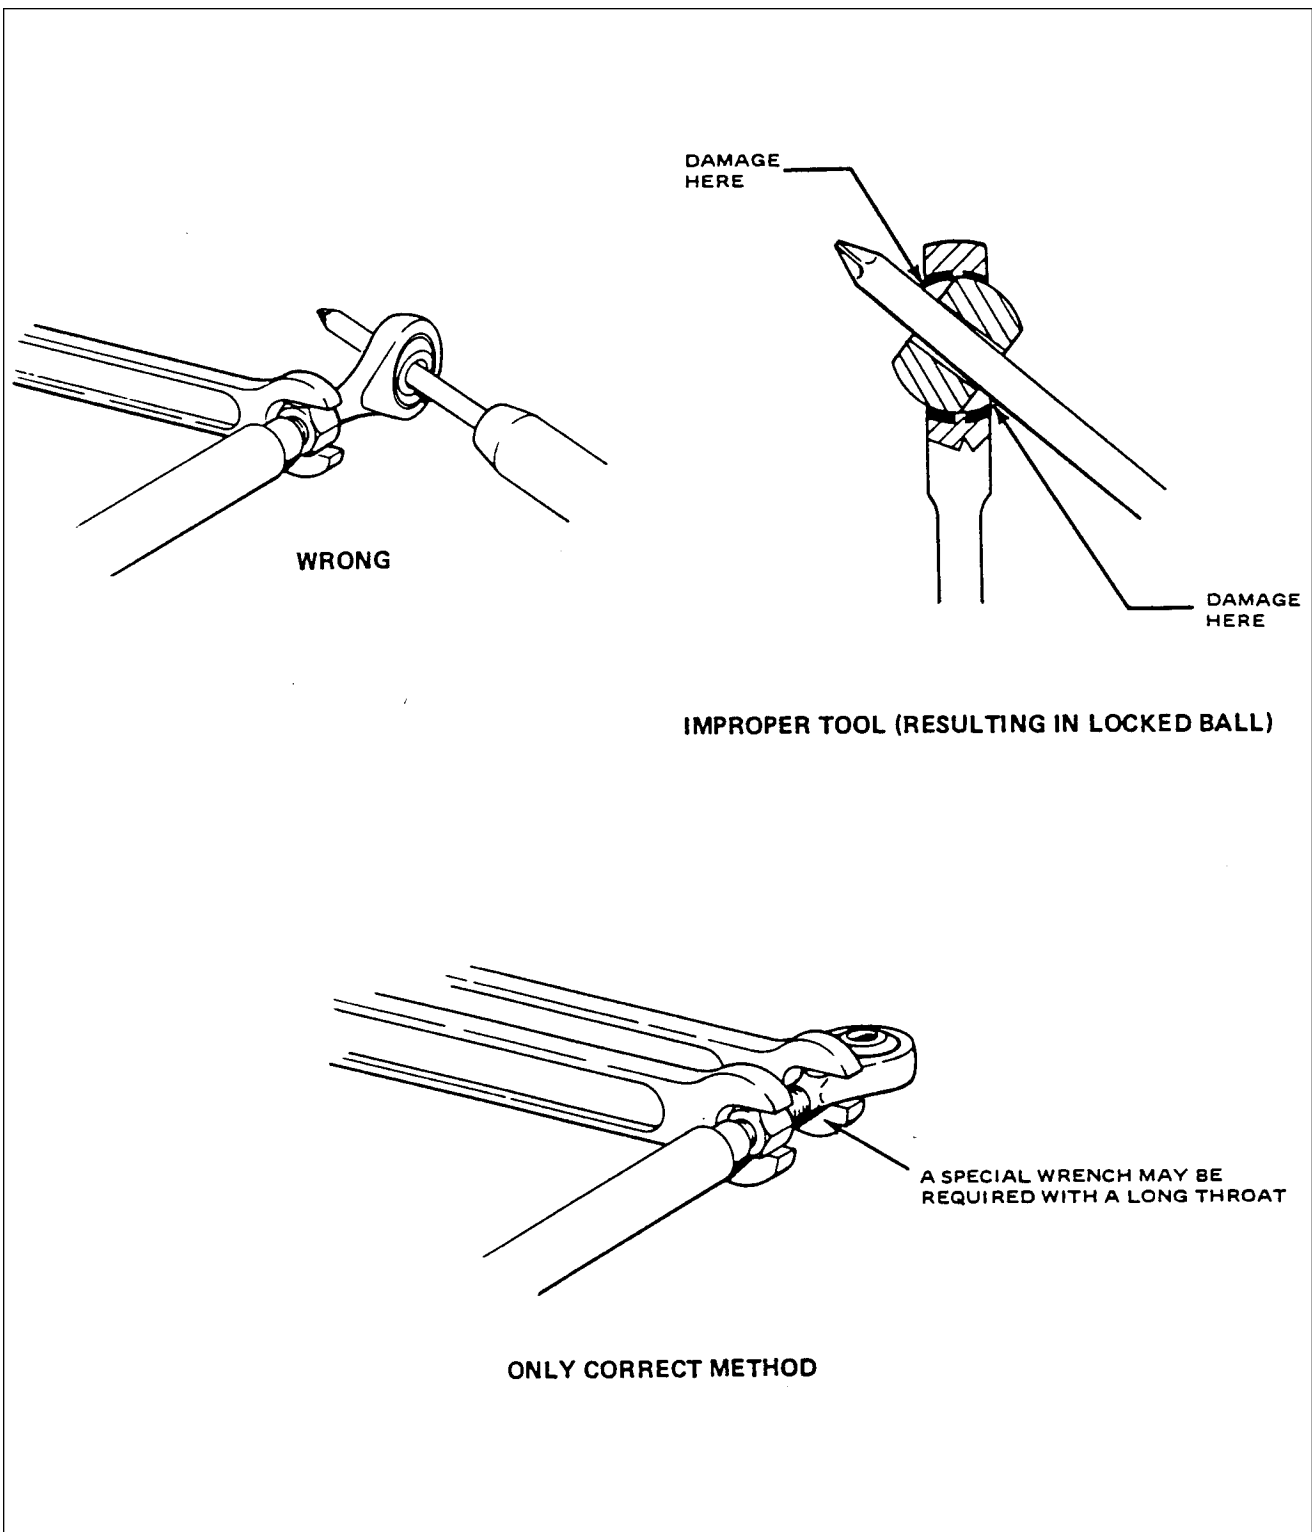

Figure 27-1. Rod End Installation Method
10. When installing rod end jam nuts, refer to figure 27-1 for proper installation method.